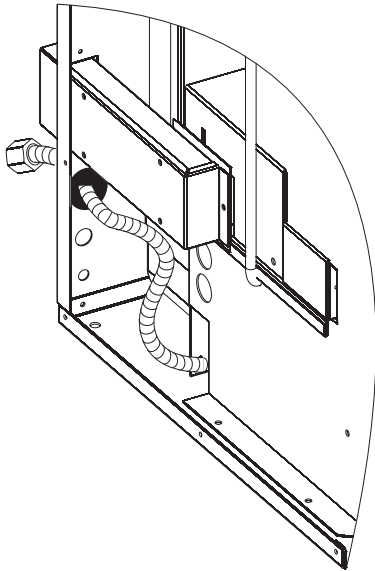

Figure 39 - Fireplace Mantis
1. Pull the factory installed flexible gas line through the hole in the back panel. See Figures 39 and 40.